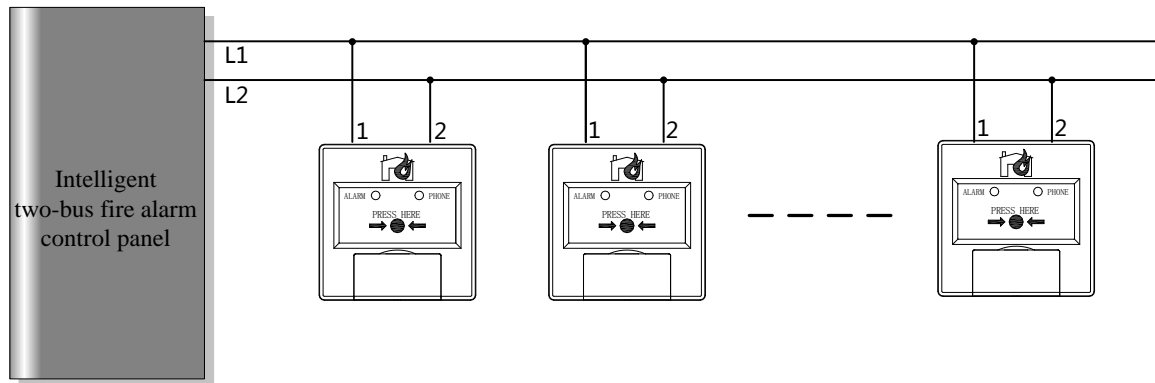

Fig.3
2. Fig.3 shows the general functions and wiring diagram of the product.